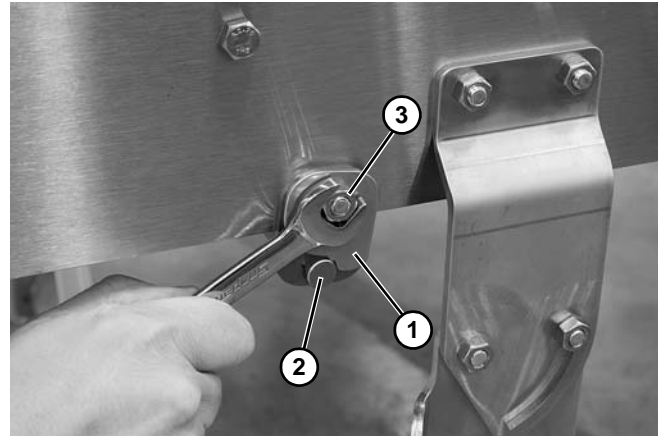

Figure 25
6. Rotate return clip (Figure 25, item 1) down against shaft (Figure 25, item 2) on both sides of conveyor. Tighten nuts (Figure 25, item 3).